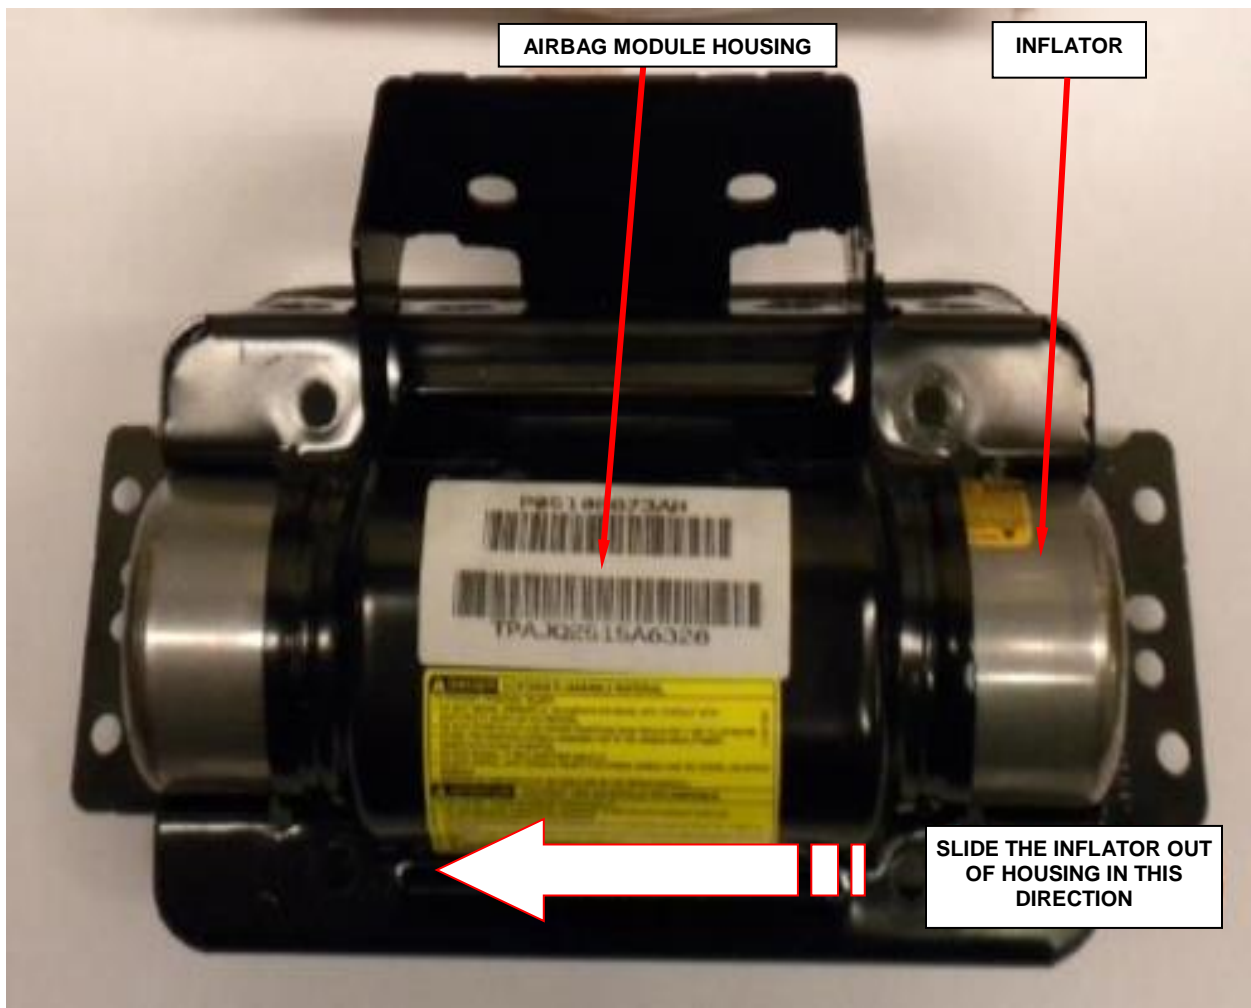

Figure 37 – Remove Airbag Inflator
- d. Slide the inflator out of the passenger airbag module housing (Figure 37).